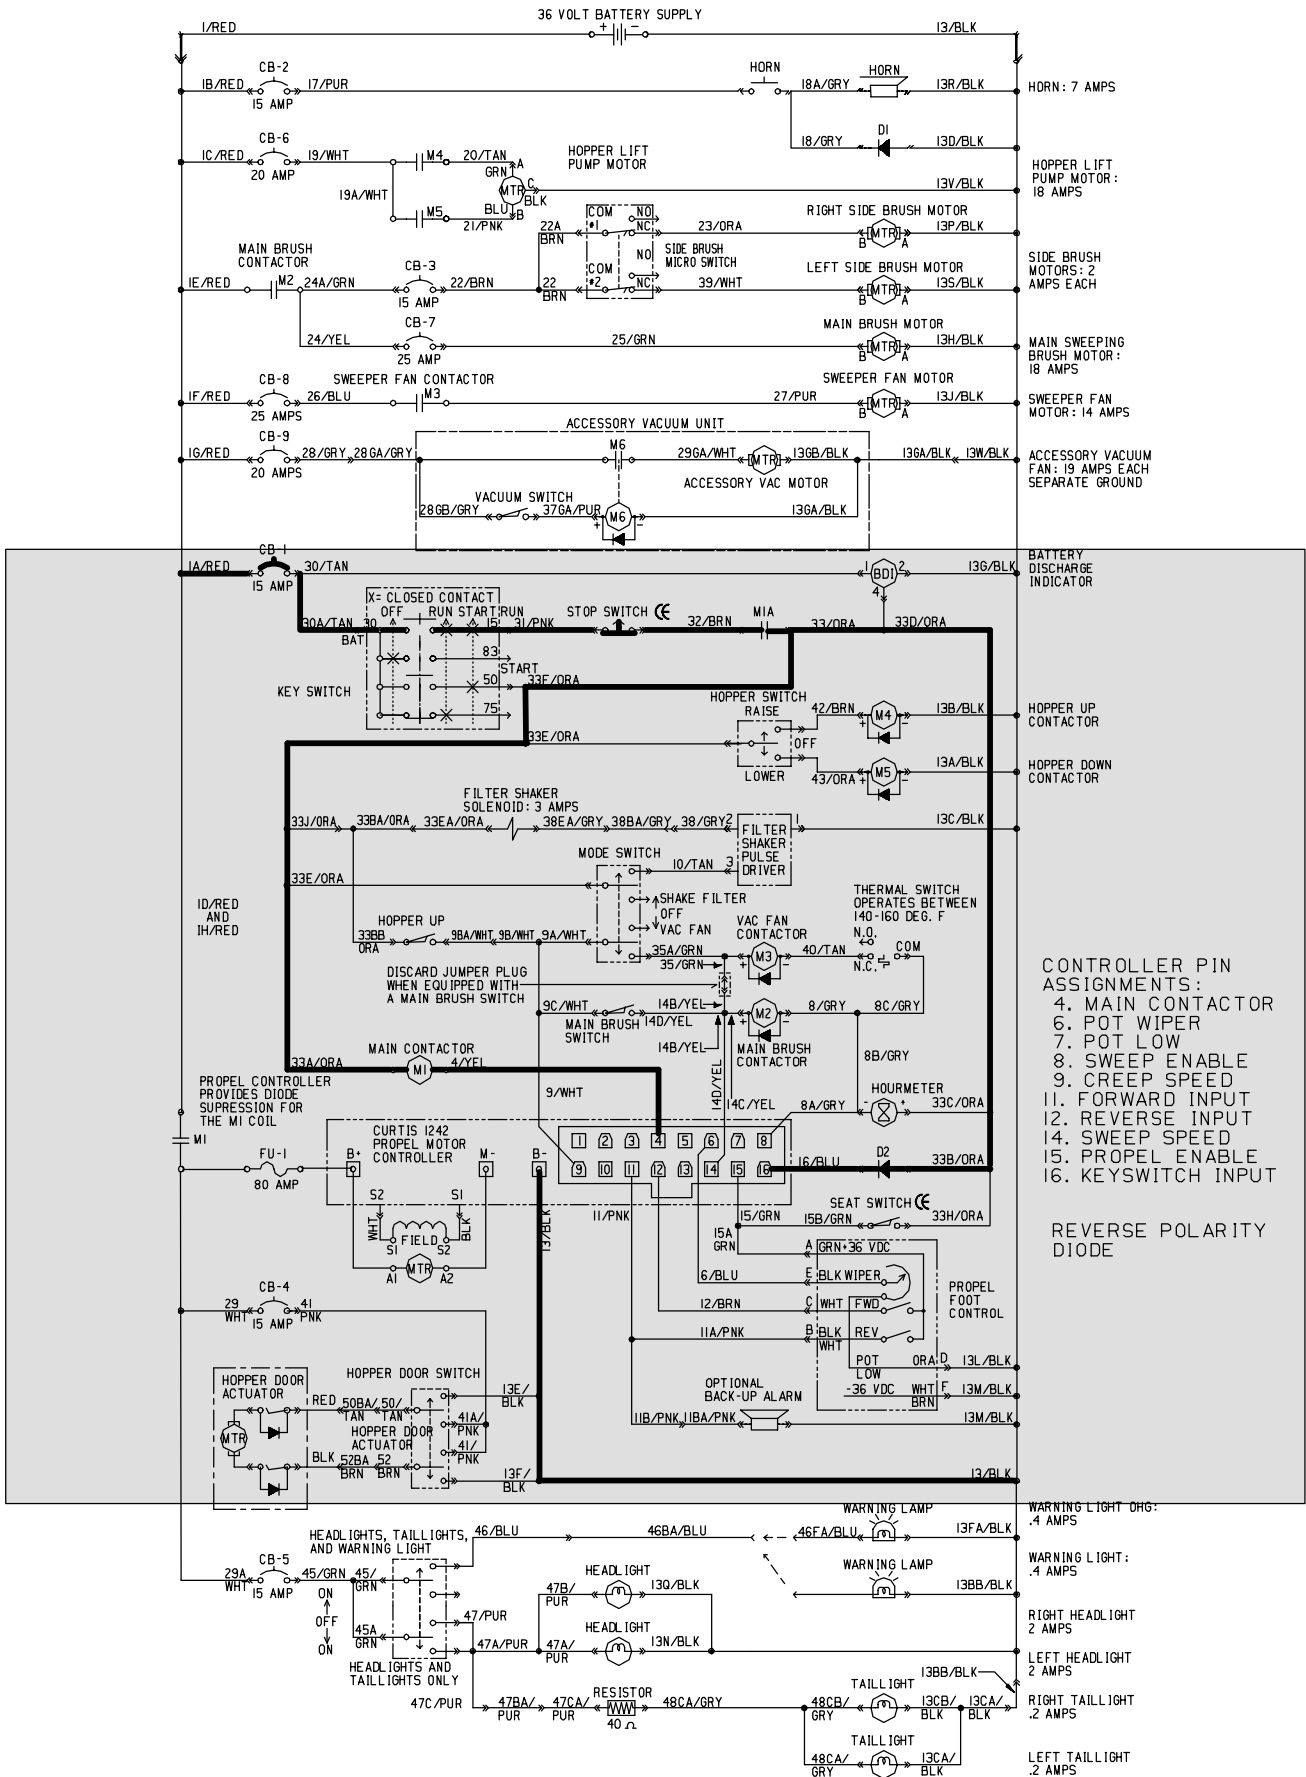

Fig. 3
3. Key switch run circuit. (see Fig. 3)